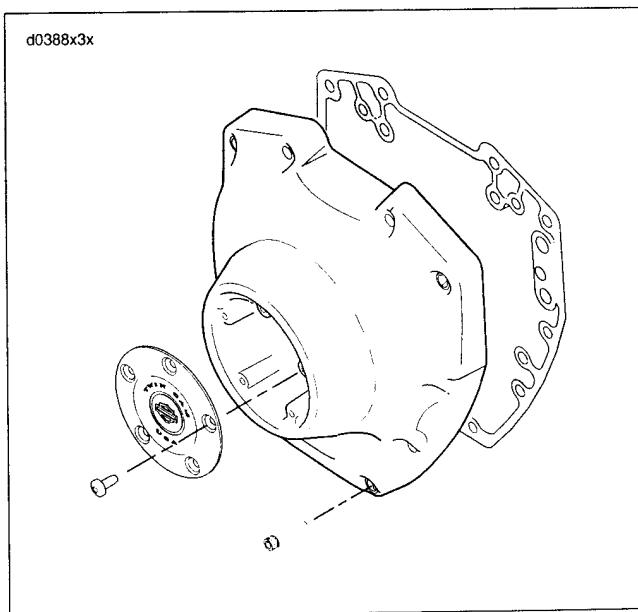

Figure 3-76. Cam Cover Gasket
19. See Figure 3-76. Align holes in **new** cam cover gasket with those in the crankcase flange.